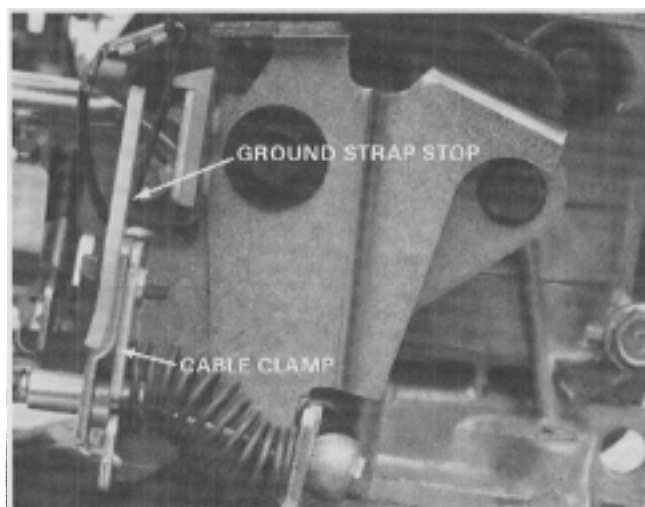

Figure 57
4. Slip the compression spring over the cable, then slip the lugged end of the cable into the slot in the brake plate. Slip the spring between the brake plate and mounting plate, then secure with the cable clamp and ground strap stop as shown in Figure 57.